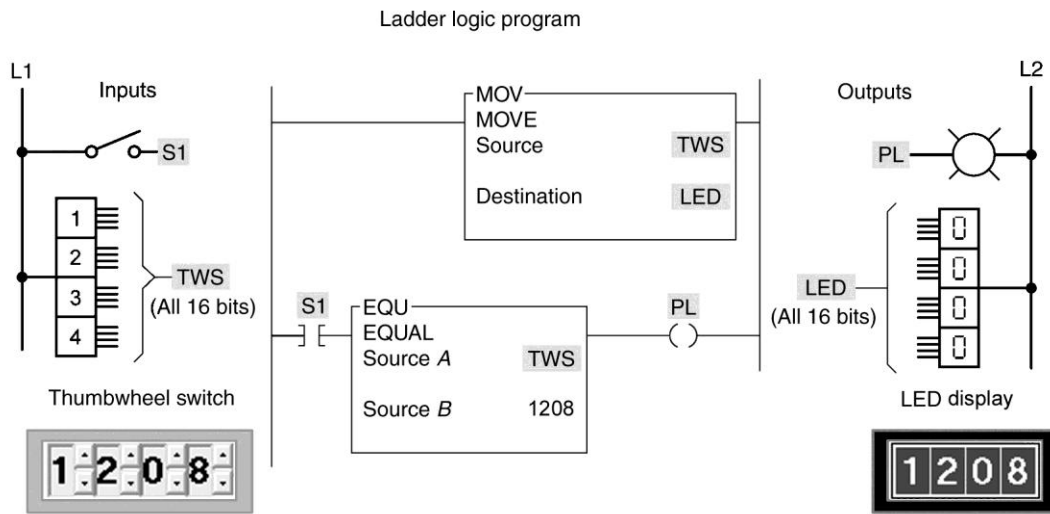

Figure 10-13 Program for question 20.
- 20-1 For the program of Figure 10-13, the thumbwheel switch is connected 20-1._____ to a _____ input module.